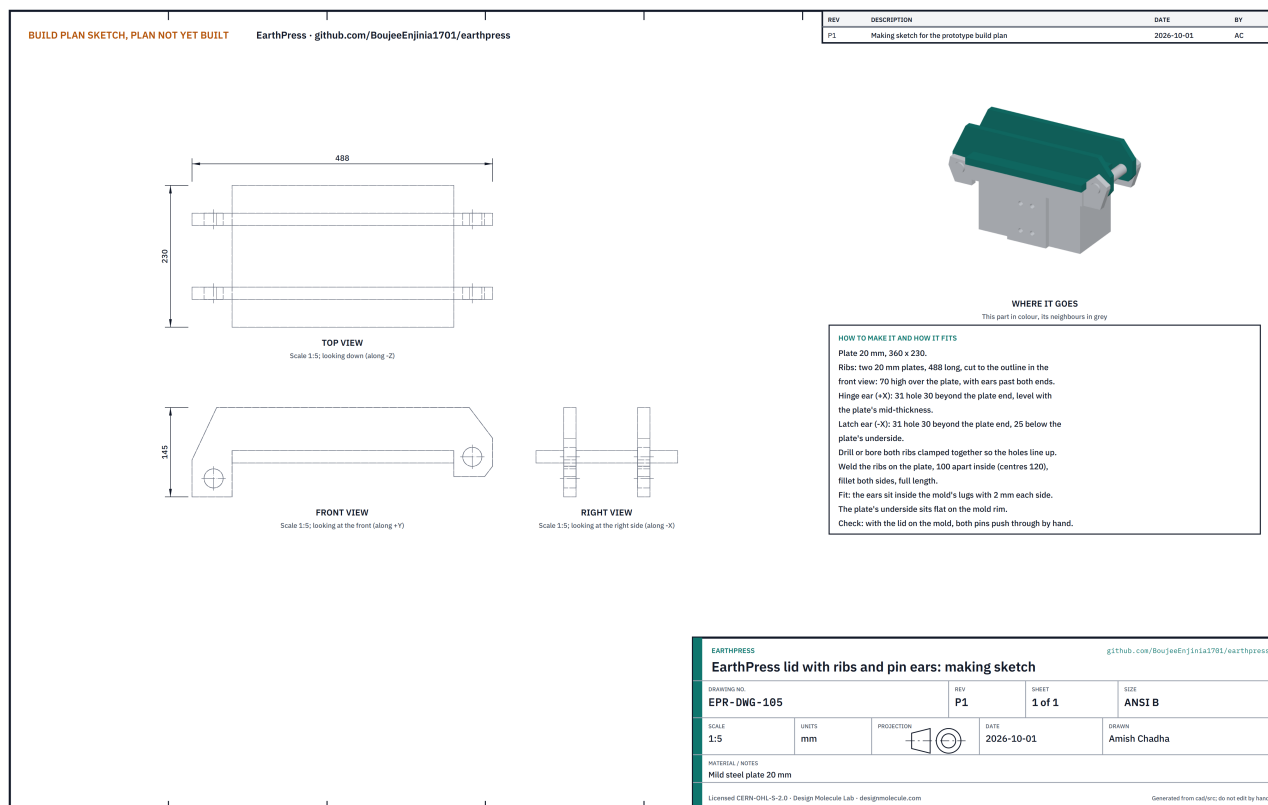

Figure 22. Lid making sketch (EPR-DWG-105).
2. Cut the two ribs from 20 mm plate, 488 long, to the outline of Figure 22. Clamp them together and drill both 31 holes through both.